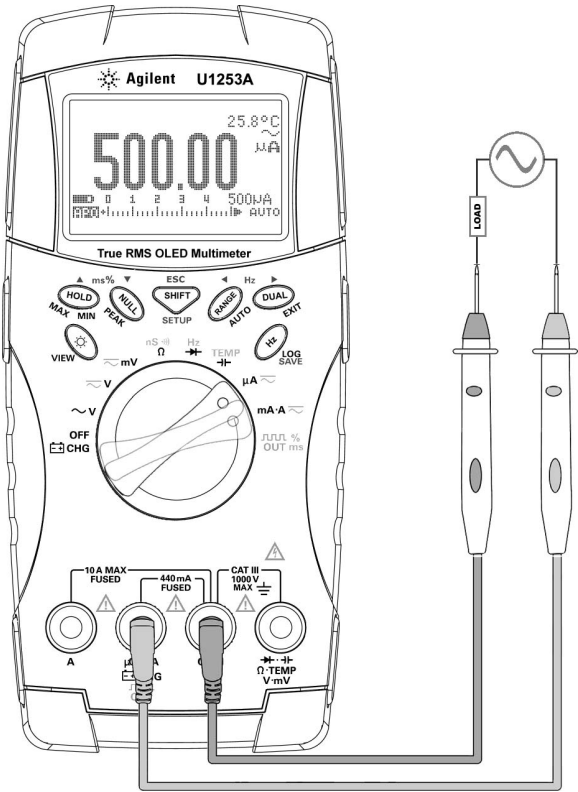

Figure 2-3 Measuring μA and mA current
- 3 Connect the red and black test leads to input terminals μ A.mA (red) and COM (black) respectively (refer to Figure 2-3 on page 34).
- 2 Connect the probes as shown in Figure 2-3 on page 34.